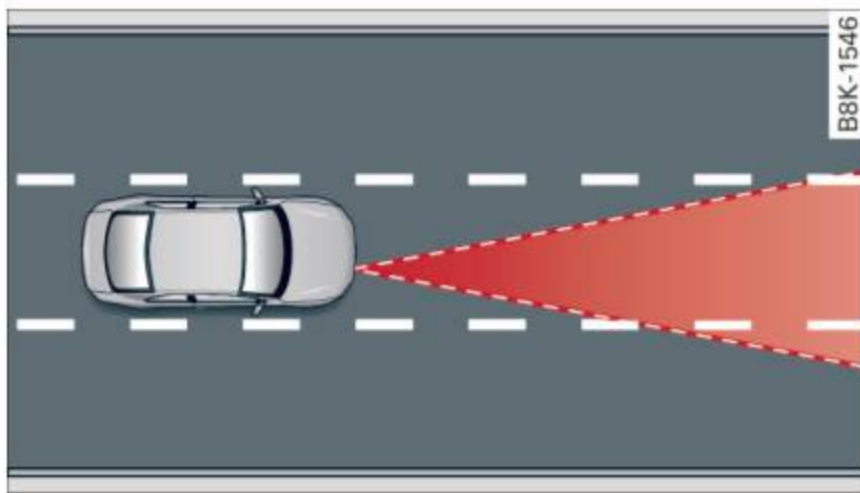

Fig. 95 Detection range
- Objects can only be detected when they are within sensor range ⇒ *page 90, fig. 95*.